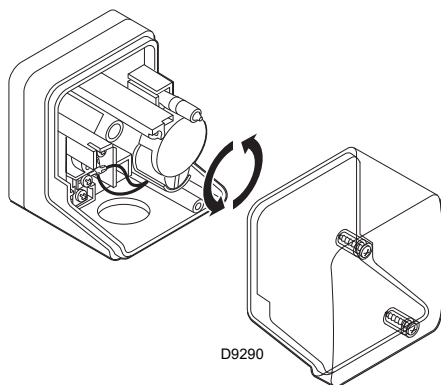

Fig. 29
- Adjust the low gas pressure switch to the start of the scale (Fig. 29 on page 30).